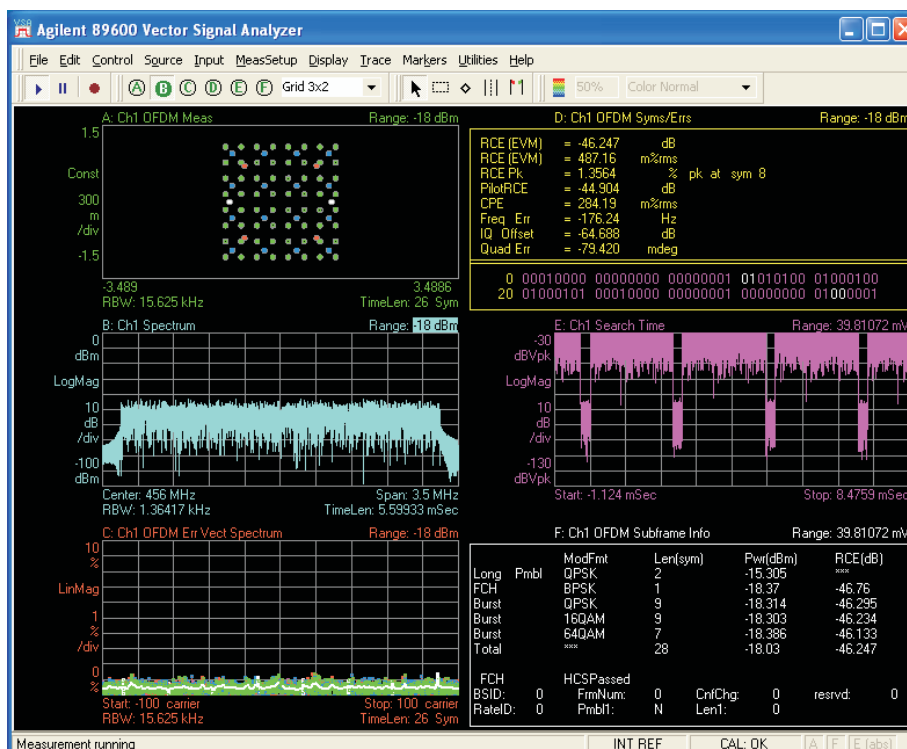

Figure 3. TRF1216EVM Performance
- Verify that the EVM performance is less than  $-40$  dB; see Figure 3.